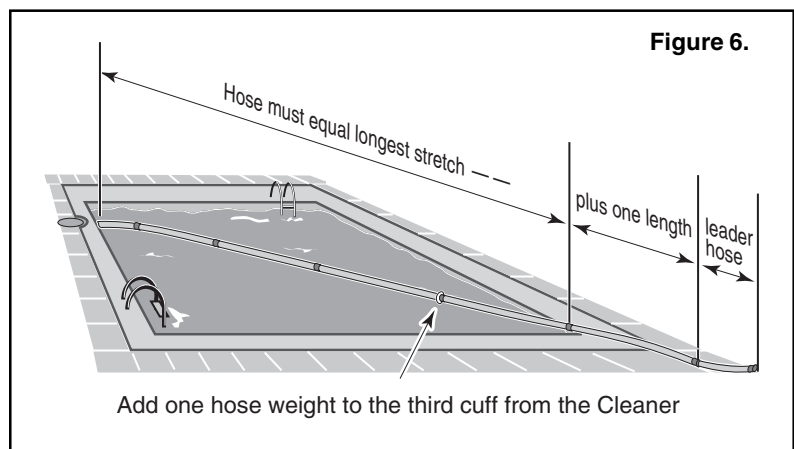

Figure 6.
4. The overall length of hose needed will be the distance from: the point at which you attach the hose to the suction connection, to the furthest point in the pool, plus one hose length, plus the leader hose, (see Figure 6).